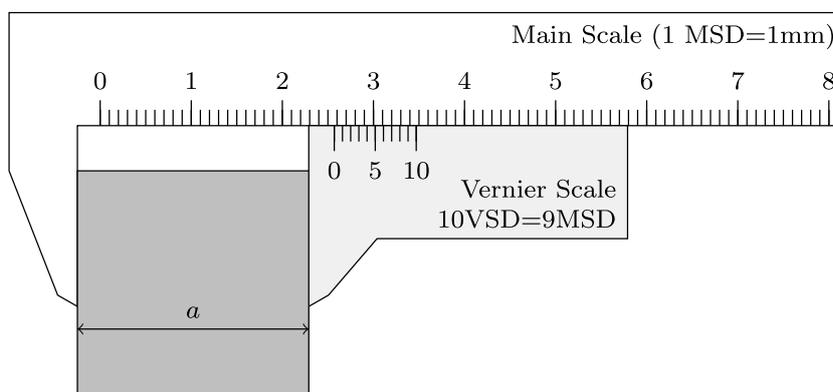

Figure 6: Example 3: Measuring the edge of a cube with the Vernier caliper of Example 1.
**Example 3.** The Vernier calipers of Example 1 is used to measure the edge of a cube. The readings are shown in the Figure 6. Find the edge length of the cube.
**Example 4.** The Vernier calipers of Example 2 is used to measure the edge of a cube. The readings are shown in the figure 6. Find the edge length of the cube.